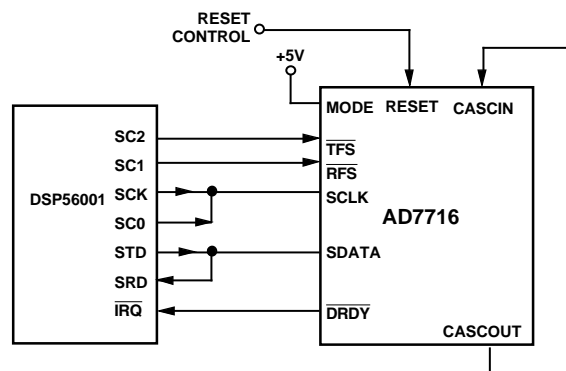

Figure 10. DSP56001 Interface
Figure 10 shows an interface to the DSP56001 digital signal processor. The AD7716 is set up for the slave interface mode. The DSP56001 is set up for asynchronous operation with gated clock and normal framing. Data must be written to the AD7716 control register in two 8-bit bytes. The first byte is written to the DSP56001 SSI transmit data register (TX) and this is automatically transferred to the transmit shift register when the frame sync occurs. Data is shifted out to the STD pin by the internal bit clock (SCK) when the associated frame sync output is asserted.